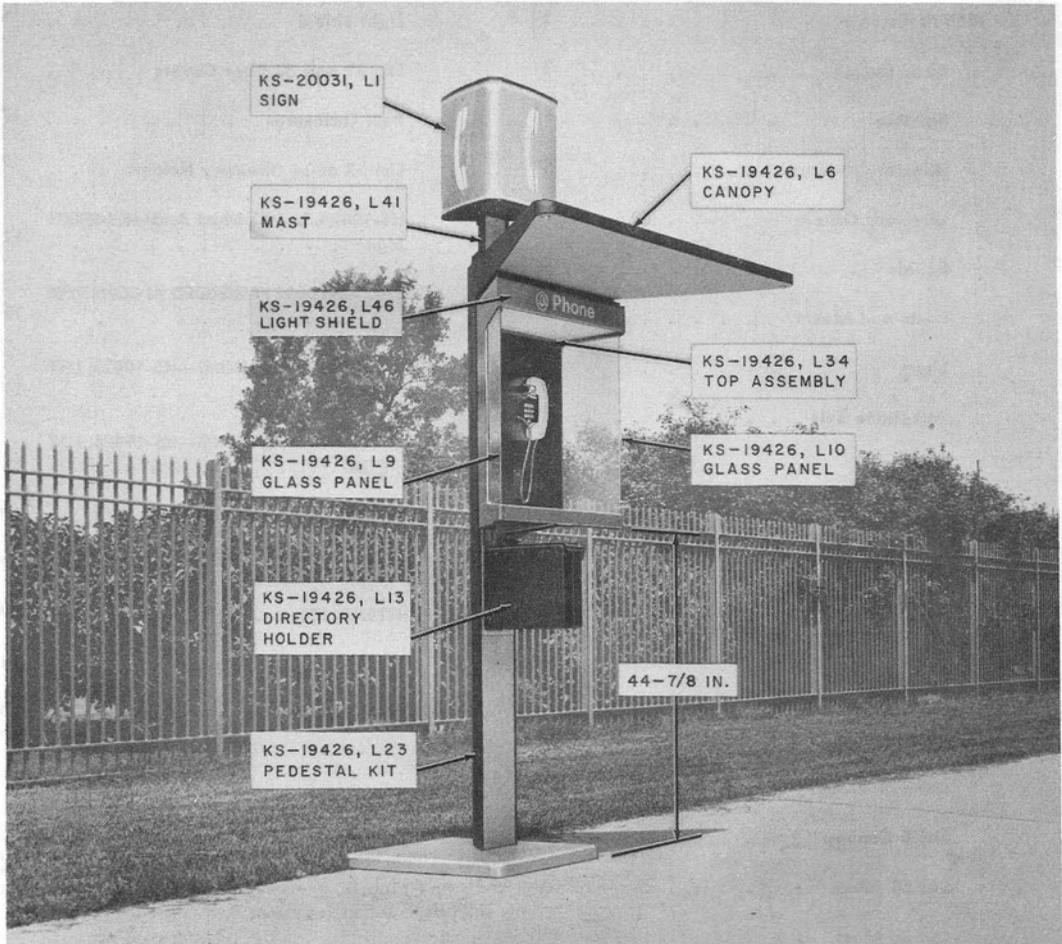

Fig. 1—KS-19426 Mounting for Walk-Up Outdoor Service with List 41 Mast and KS-20031 Illuminated Sign
2.02 The KS-19426 mounting consists of a 90-degree wedge-shaped housing for post- or wall-mounting of coin telephone sets (Fig. 1 through 5).
2.03 Post mountings (Fig. 1 through 3) may be installed singly or in multiple combinations as shown in Fig. 6.
2.05 A wedge-shaped KS-19426, List 6 canopy (Fig. 1) is available for installation above a single housing to protect the user from the weather. Canopies also may be used in multiple arrangements.
- (a) List 13 directory holder (Fig. 1) for outdoor use, walk-up installations.